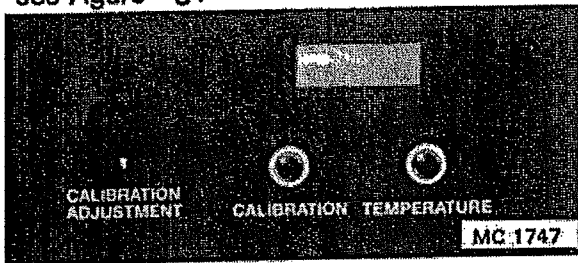

Figure 8
- A. The Digital Display Meter shows grain moisture constantly and should read approximately 6% when Sensor is in open air (no grain passing over Sensor), see Figure 8.
- B. Push Grain Temperature Button and the display meter will show Temperature of Grain on the sensor, see Figure 8.
- C. Push Calibration Button and the display meter will show the amount added to or subtracted from the displayed moisture (-9.9 to +9.9), see Figure 8.